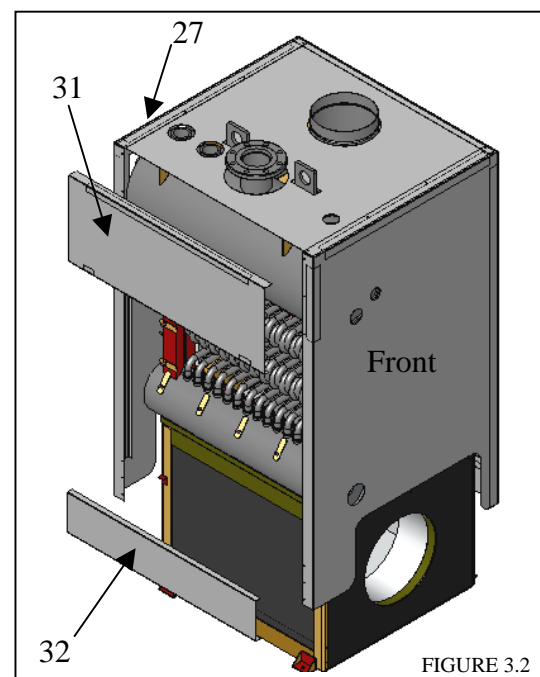

FIGURE 3.2
3.7 Position jacket door bottom filler bar (Item #32) and screw to bottom corners of jacket rear (Item #27) and jacket front (Item #26). See Figure 3.2.
- 3.9 Install Door Top Filler Bar (Item #31) by sliding the upper end between the insulation and jacket top (Item #29), and rest the lower end on the welded studs of the pressure vessel. Secure Door Filler Bar in place with provided sheet metal screws. See Figure 3.2.